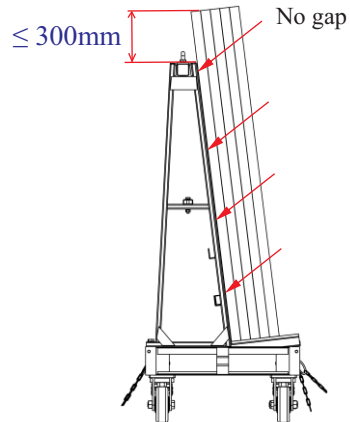

Figure 1.3
- The stone slabs must lean against the frame (Figure 1.3).
- The height of the slab shall not be more than 300mm from the top of the A-frame (Figure 1.3).